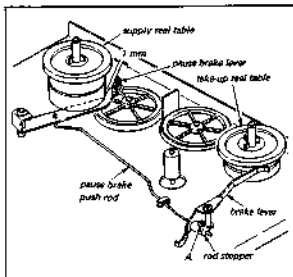

Fig. 4-15. Rewind idler replacement
- If this condition does not exist, turn out "A" and adjust the Rod Stopper shown in Fig. 4-15.